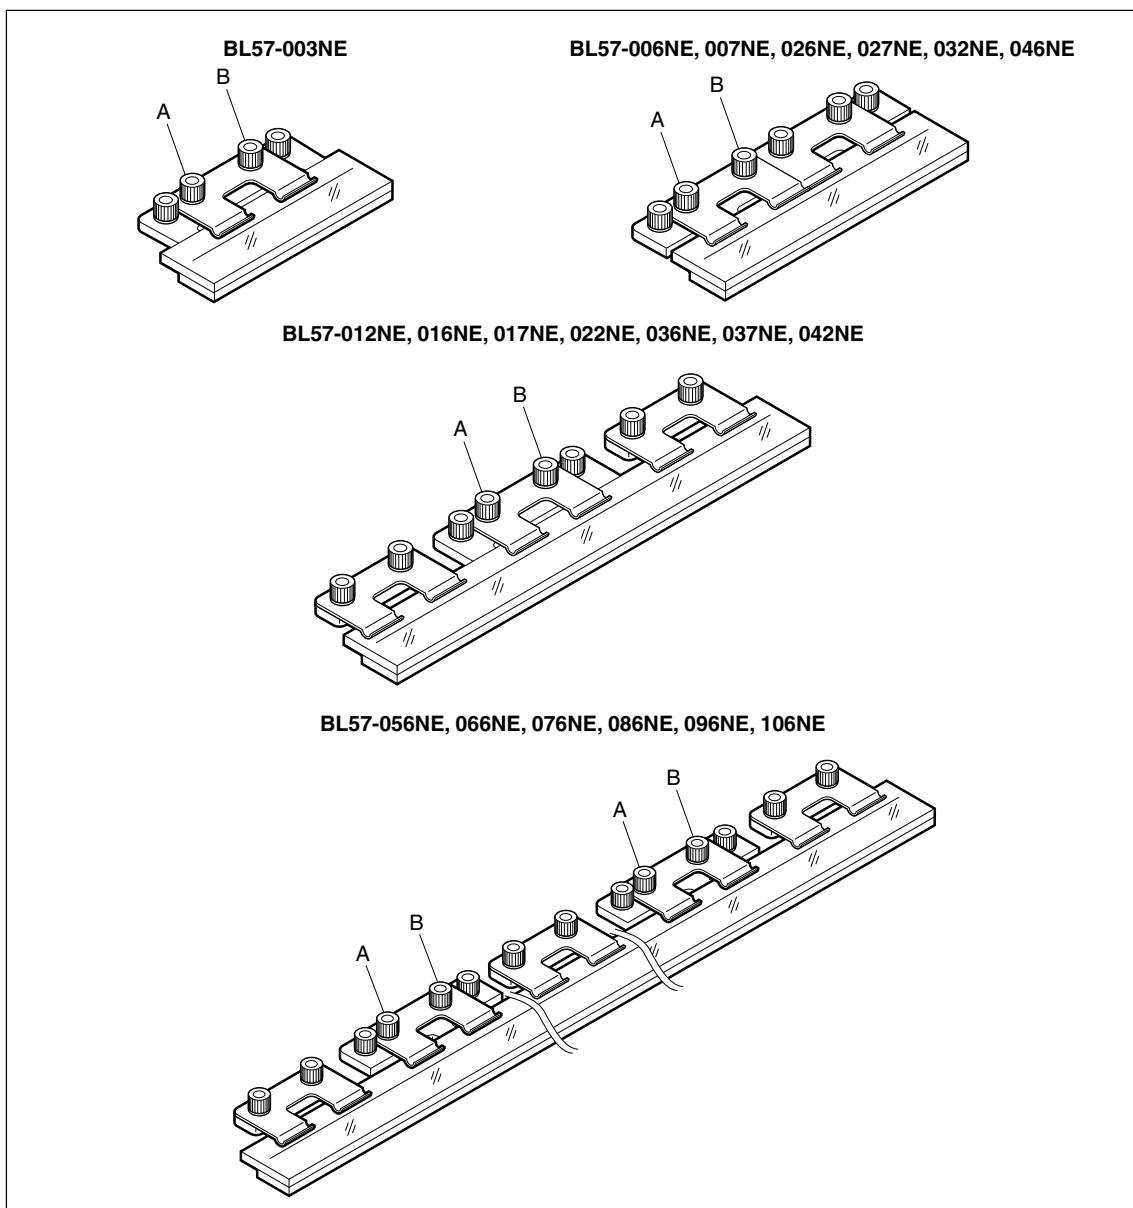

Fig. 3-8
- 5 Leave the scale in the condition of Fig. 3-8 for one hour or more until the scale temperature stabilizes.